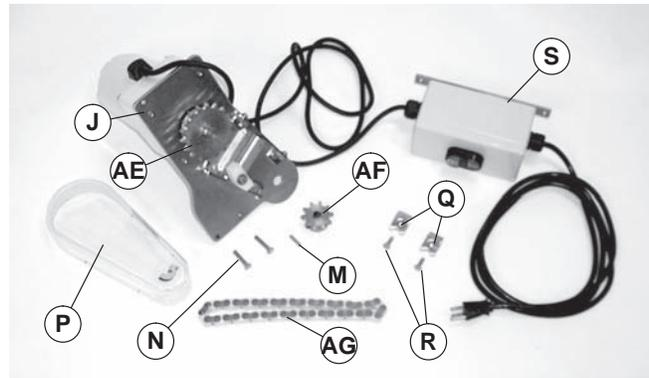

Figure 9
- Typical components (Figure 9)